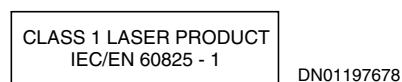

Figure 3. Class 1 Laser Product text
- Figure 3. Class 1 Laser Product text **13**